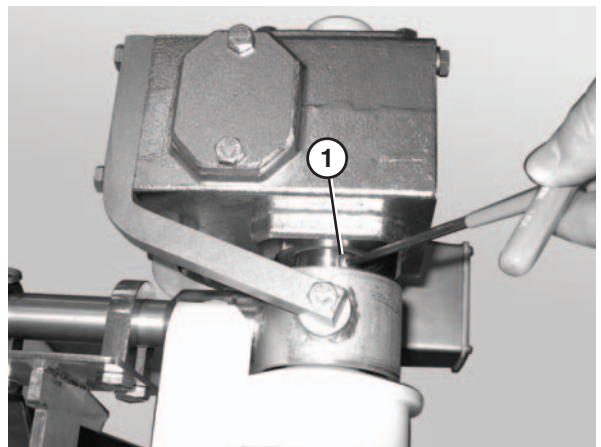

Figure 61
1. Loosen the button head screws (**Figure 61, item 1**) that connect the gearmotor to the drive spindle.